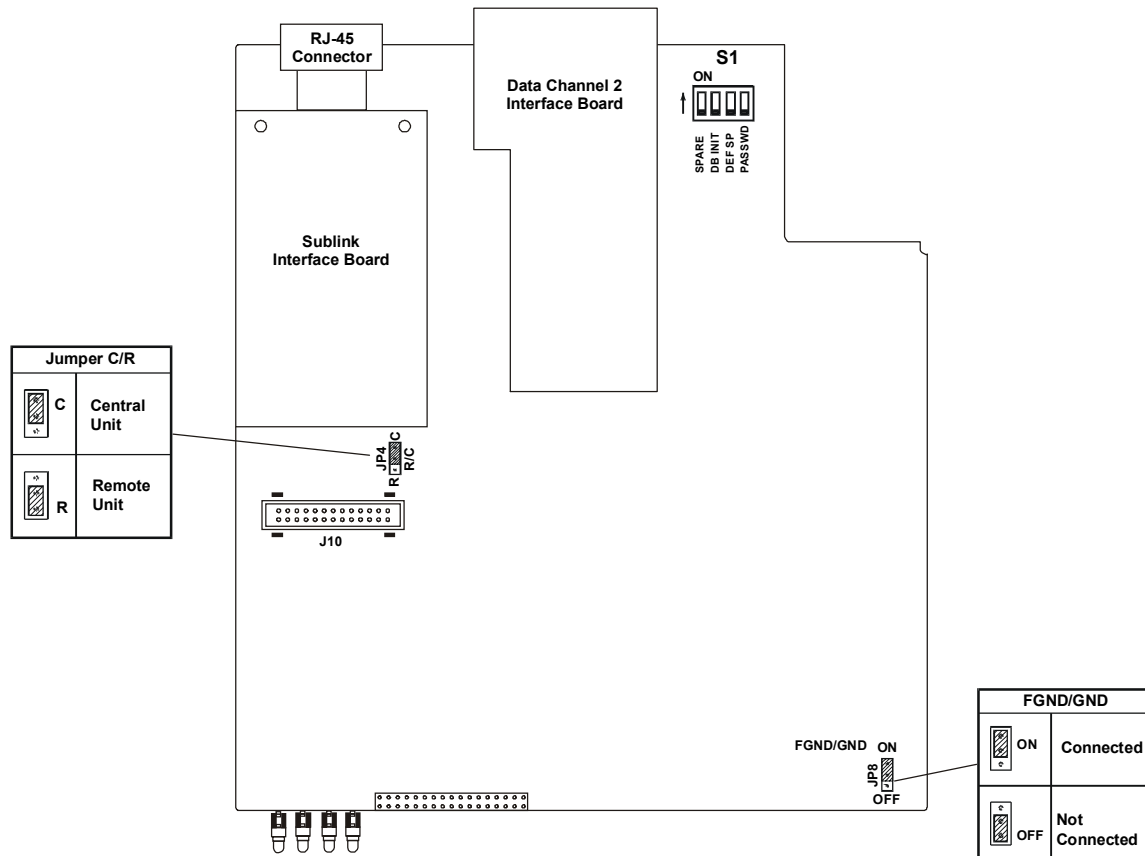

Figure 2-1 HCD-E1 - Identification of Boards, Jumpers and Switches
*Figure 2-1* shows the location and identification of the boards installed in the HCD-E1 unit.
- Set the Main Board Jumpers and Switch, referring to *Figure 2-1*.
The internal jumpers and switches located on the HCD-E1 main board are identified in Figure 2-1. The functions of jumpers and switches are described below.
The E1 sublink interface board is located over the main board, and is installed with the component side facing the main board. It is electrically connected to the main board by means of a flat cable via the J10 connector on the main board (see *Figure 2-1*).
3. Disconnect the flat cable from the connector J10 on the main board (see *Figure 2-1*).